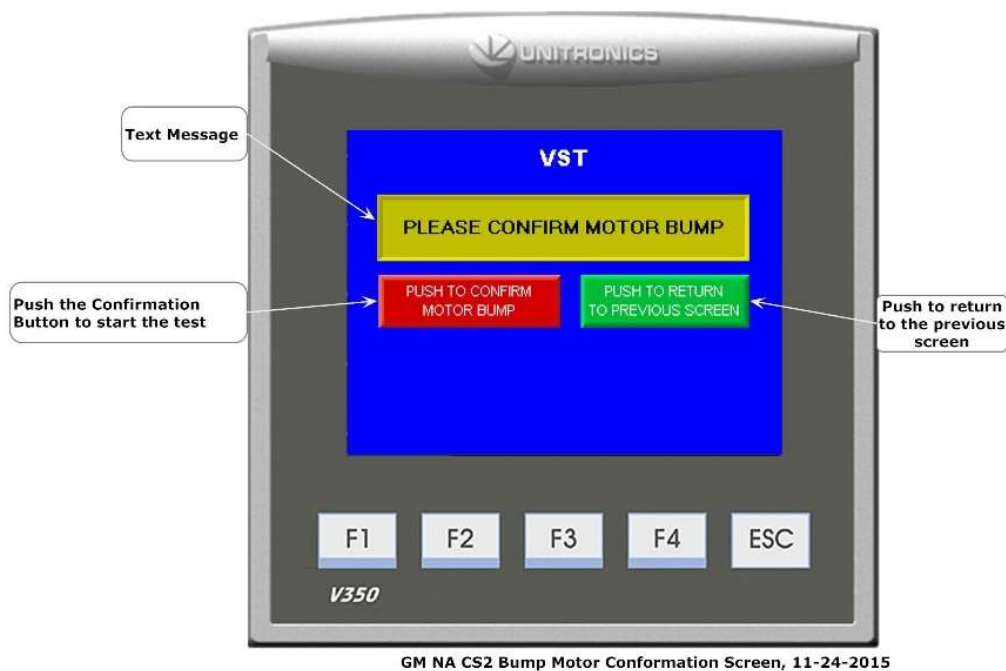

Figure 6-4: Bump Confirmation Screen
2. At the Bump Motor Confirmation Screen, push the red Confirm Motor Bump button to start the Vacuum Pump motor rotation. Then cancel the Bump Motor; push the green button to return to the previous screen. **See Figure 6-4.**